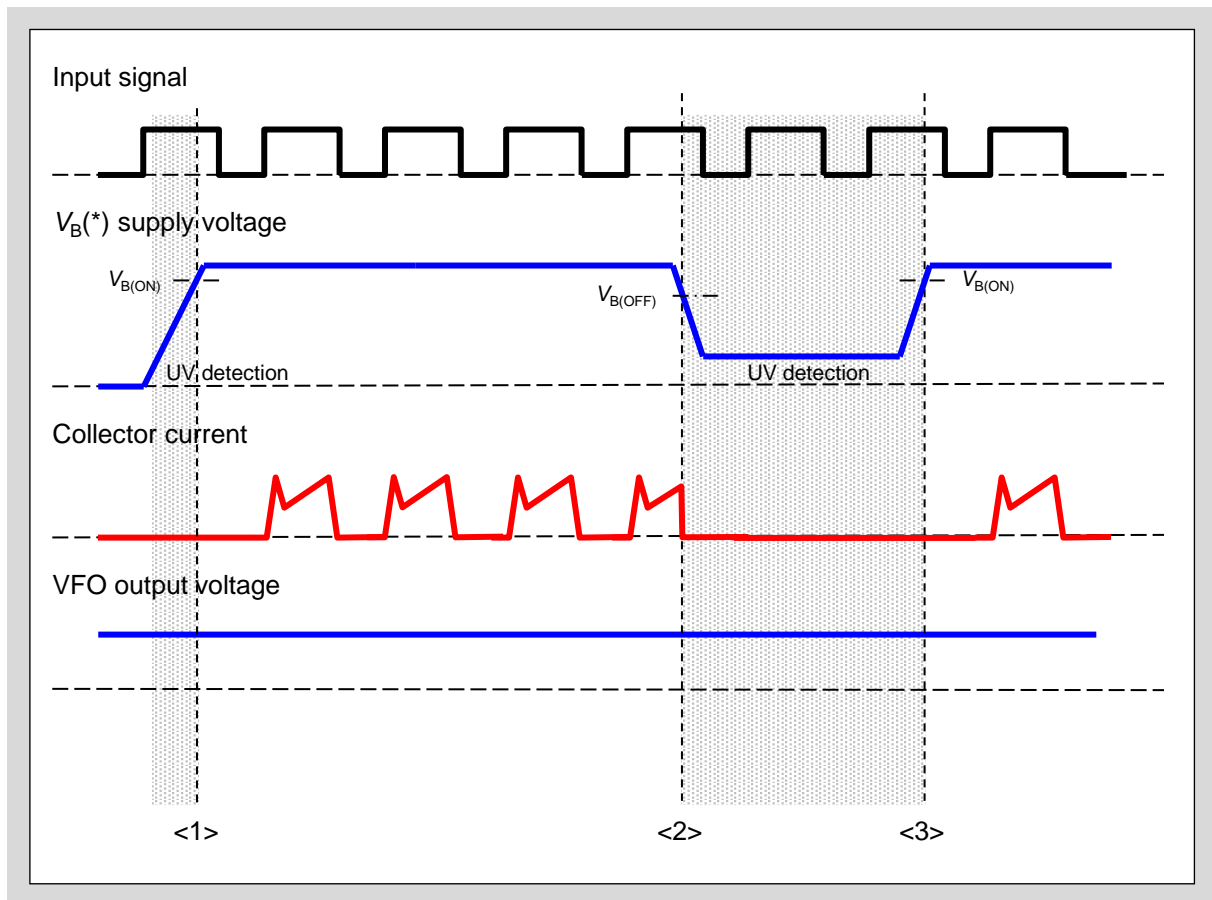

Fig.3-5 Operation sequence of $V_B(^*)$ Under voltage protection (high side)
- Fig.3-5 shows the operation sequence of UV operation of $V_B(U)$, $V_B(V)$, $V_B(W)$.